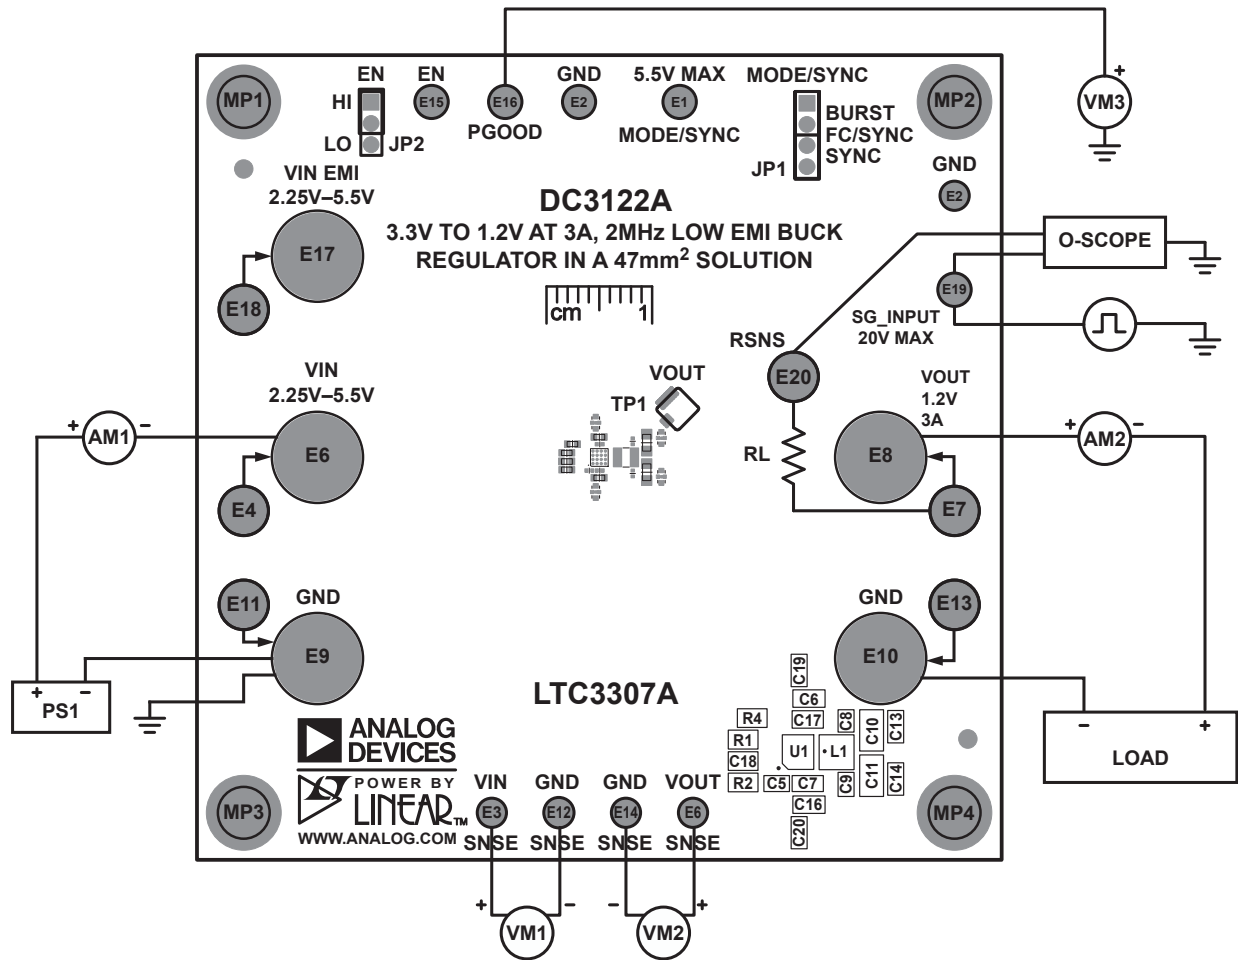

Figure 1. Test Setup for the DC3122A Demo Board
Demonstration circuit 3122A is easy to set up and evaluate the performance of the LTC3307A. See Figure 1 for proper measurement equipment setup and follow the procedure below.
NOTE: For accurate V_{IN} , V_{OUT} and efficiency measurements, measure V_{IN} at the V_{IN} SNSE and GND SNSE turrets and V_{OUT} at the V_{OUT} SNSE and GND SNSE turrets as illustrated as VM1 and VM2 in Figure 1. When measuring the input or output voltage ripple, care must be taken to avoid a long ground lead on the oscilloscope probe.
13. To test the transient response with a base load, add the desired resistor to produce a minimum load between V_{OUT} and RSNS turrets (R_L shown in Figure 1). Note that the total load resistance will be R_L plus R11 (100m Ω).